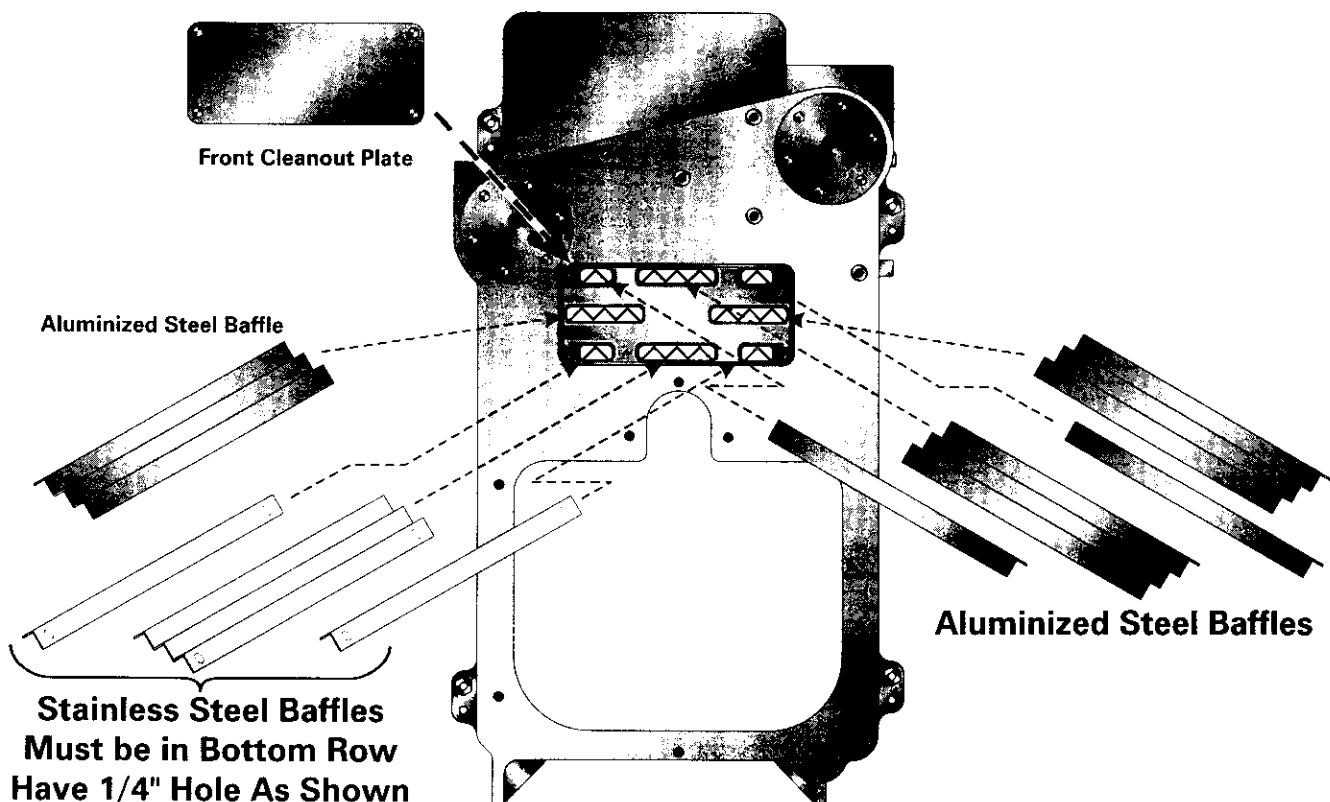

Figure 18: Flue Baffle Locations
3. Place baffles as shown in Figure 18. Three of these are special stainless steel baffles, identified with a 1/4" hole punched in each end. These baffles must be placed in the lowest row of tubes.